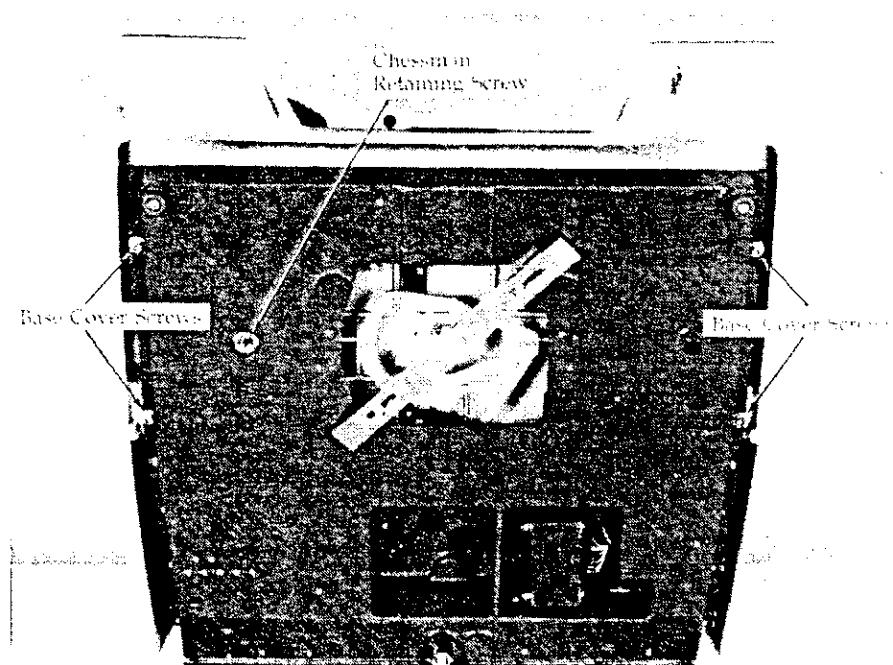

Figure 9-13 The Underside of the Base
Step 1 Slide the machine forward (being careful that it does not fall from the bench) to access its under side. From underneath the machine, while holding the Chessman rod with pliers, remove the Chessman retaining screw (see Figure 9-13).